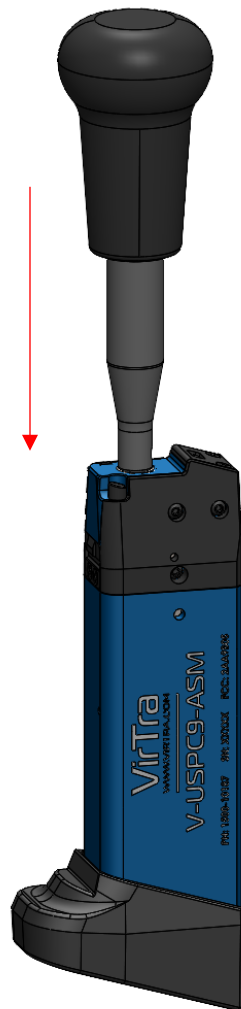

Figure 2
- All magazines should be depressurized at the end of the day to increase the lifespan of VirTra products. To depressurize a VirTra magazine, first insert the depressurization tool, as shown in Figure 2, until all CO2 has been expelled. Allow magazine to rest for at least 30 seconds, then insert the tool again to be sure all CO2 has been exhausted.